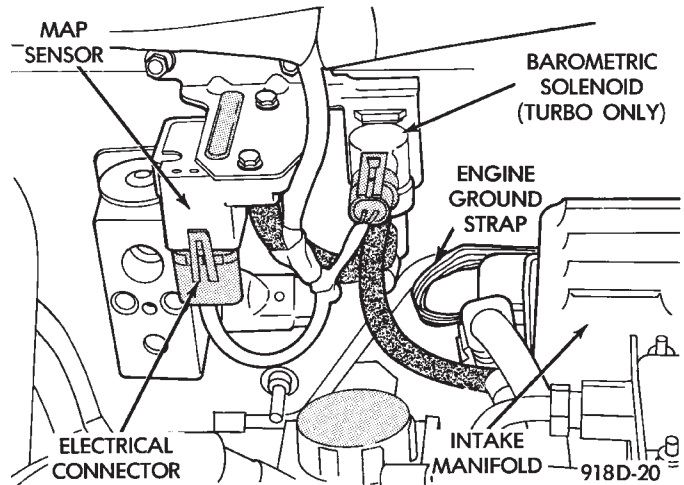

Fig. 14 Manifold Absolute Pressure Sensor
(5) Remove fuel pressure regulator mounting nuts. Remove fuel pressure regulator from rail (Fig. 14). Check O-Ring for damage. Replace damaged O-Rings.
- (1) Remove vacuum hose and remove mounting screws from sensor (Fig. 14).
- (2) Remove wiring harness and remove sensor.
- (3) Reverse the above procedure for installation.